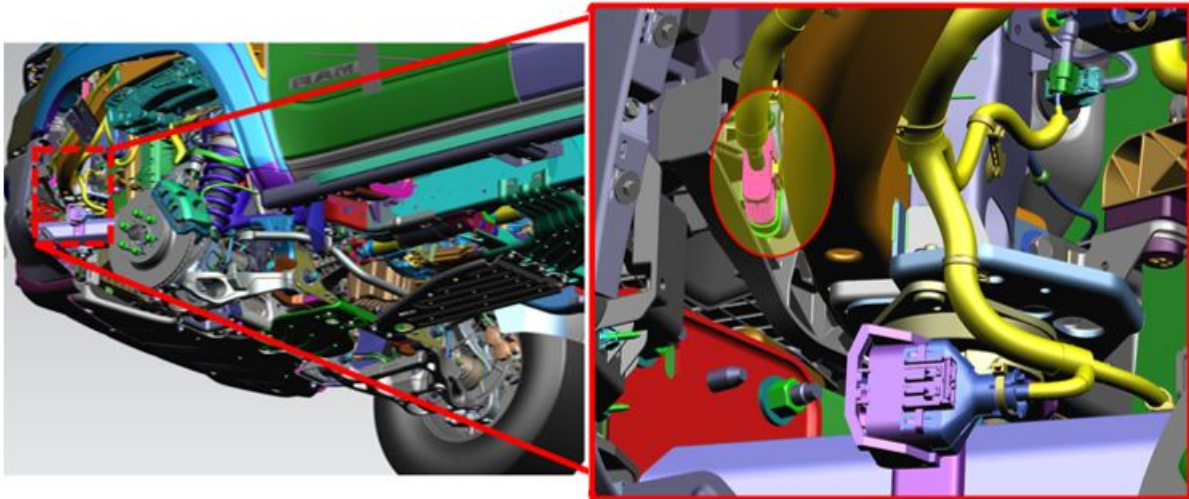

Fig. 1
2. Remove the left front tire and splash shield to gain easy excess to main harness connector XY110A (Fig. 1) .